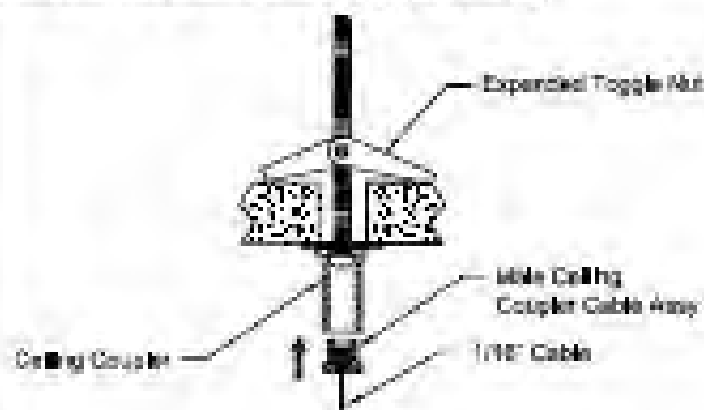

Figure 3
2. With Toggle Nut Expanded tighten Screw until Ceiling stays tight between Toggle Nut and Washer. See Fig. 3.
3. Screw Male Ceiling Coupler Cable Assembly into Ceiling Coupler. See Fig. 3.